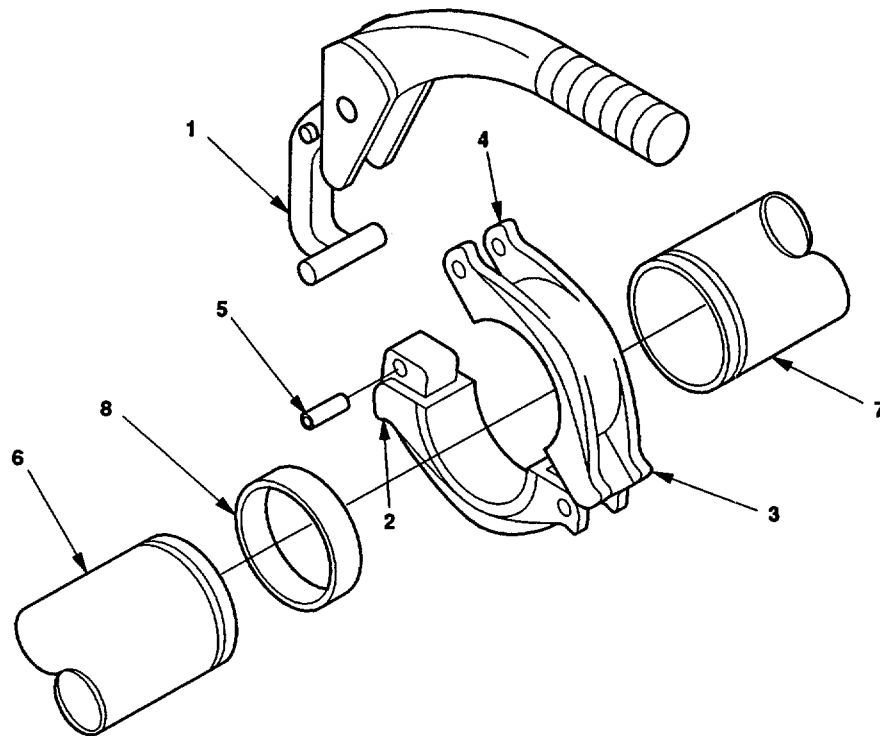

Figure 2-13. Grooved-End Pipe Quick Disconnect Coupling Clamp.
- f. Tighten nuts (1) alternately and equally until coupling halves (4) are firmly together.
2.3.3 Grooved-End Pipe Quick Disconnect Coupling Clamp Removal and Installation. Remove and install grooved-end pipe quick disconnect coupling clamp (Figure 2-13) as follows:
- Position lower portion of grooved-end pipe quick disconnect coupling clamp tool (Figure 2-13,1) under cradles (2) on lower side of grooved-end pipe quick disconnect coupling clamp (3).
- Position top portion of grooved-end pipe quick disconnect coupling clamp tool (1) over cradles (4) on upper side of grooved-end pipe quick disconnect coupling clamp (3).
- Pull handle of grooved-end pipe quick disconnect coupling clamp tool (1) over grooved-end pipe quick disconnect coupling clamp (3) and push pin (5) from grooved-end pipe quick disconnect coupling clamp (3).
- Remove grooved-end pipe quick disconnect coupling clamp tool (1) from grooved- end pipe quick disconnect coupling clamp (3).
- e. Open and remove grooved-end pipe quick disconnect coupling clamp (3) from grooved fittings (6 and 7).
- f. Remove gasket (8) from grooved fittings (6 and 7).
- g. Check gasket (8) for damage. If gasket (8) is damaged, replace it.
- a. Apply thin coat of non-petroleum silicone lubricant (item 5, appendix E) to gasket lips and outside of gasket (8).